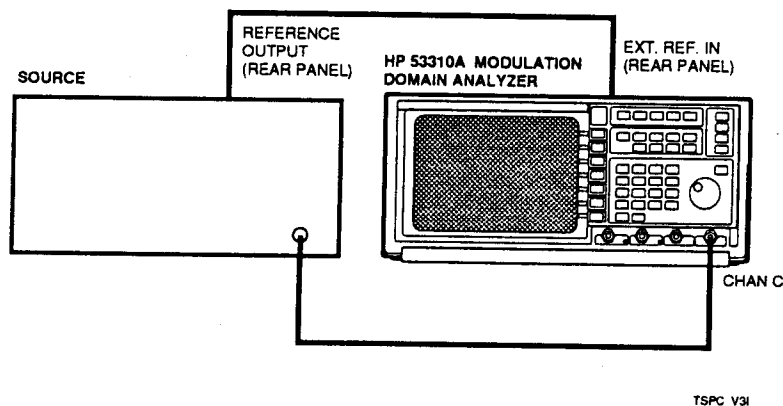

Figure 2-6. HP 53310A Performance Tests Setup (Channel C)
- 3 Connect the HP 53310A to the HP 8663A (source) as shown in *Figure 2-6*.
Make sure the HP 53310A and the source frequency references are locked. This is accomplished when the source reference is connected to the HP 53310A Ext. Ref. In input as shown in *Figure 2-6*.